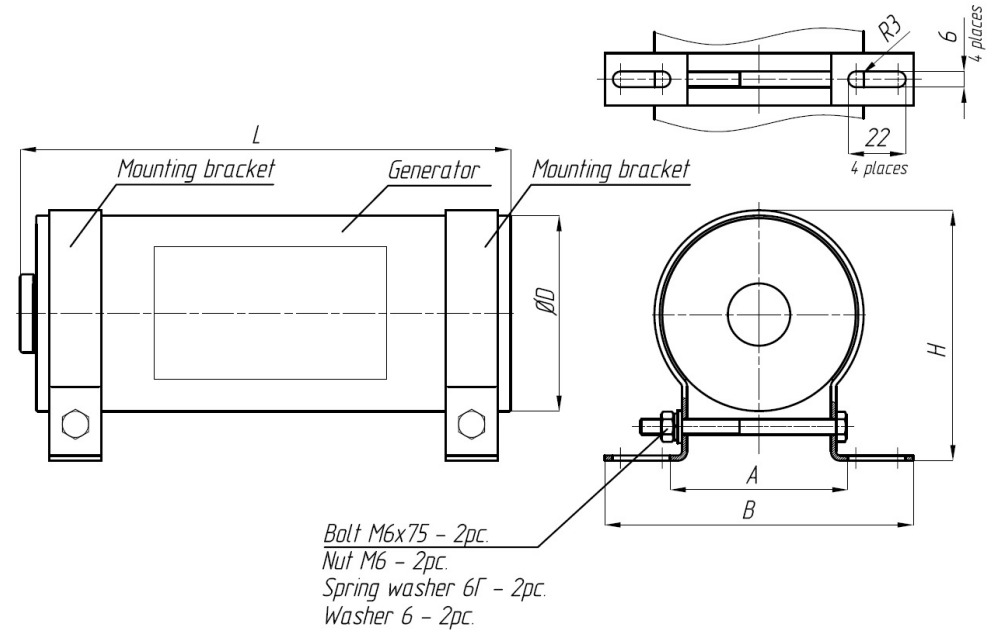

Fig. 2 Generator of extinguishing aerosol – mounting schematic
7. Generator Dimensions & Mounting Dimensions (as per Fig.2) , mm, not more than
4.1. Generator is installed inside the protected enclosure (such as cabinet, premises, vehicle etc) on the wall or vertical mounting structure. The generator is mounted with a help of mounting brackets (Fig.2). Min thermal clearances from the discharge end-plate to the protected equipment as per clause 11 in section 2 shall be observed, however the distance should not exceed 3m. The dimensions of the mounting holes are shown in Fig 2. Mounting bolts, nuts and washers are not part of the supply and shall be provided by installer.